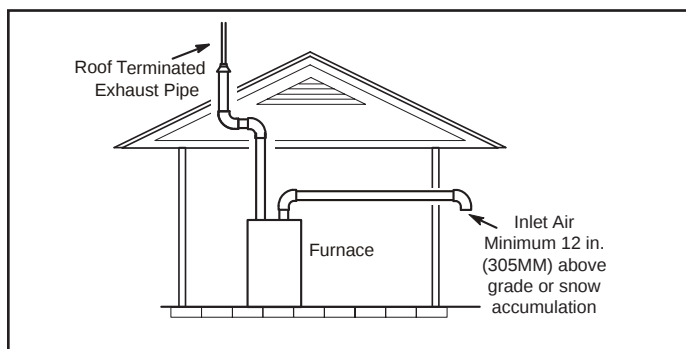

Figure 25. Exiting Exhaust and Intake Vent (no common pressure zone)
2. On roof terminations, the intake piping should terminate straight down using two 90° elbows (Figure 25).